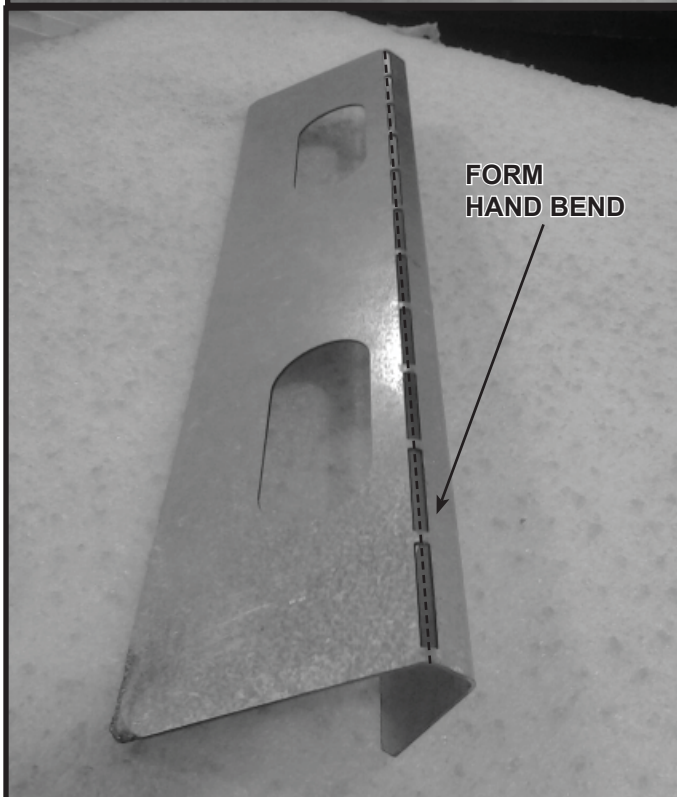

Figure 10.14 Form Transition Glass Panel Bracket
8. Install glass transition panel bracket on left and right sides of appliance opening using two self-tapping screws. See Figures 10.14, 10.15 and 10.16 for details.